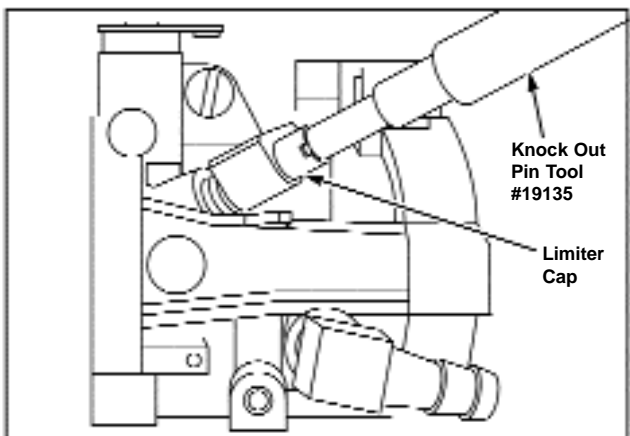

Figure 54 - Installing Limiter Cap
8. Place idle mixture screw limiter cap onto idle mixture screw, with stopper tab pointed upward. See Figure 54.